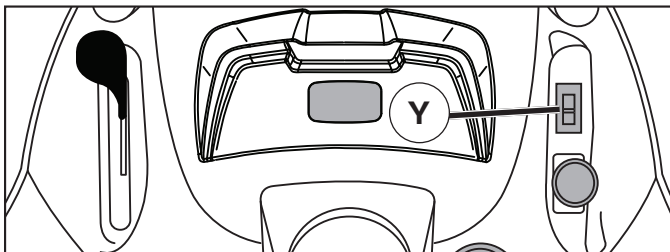

Fig. 9
## TO USE DIFFERENTIAL LOCK CONTROL (Y) (See Fig. 9)